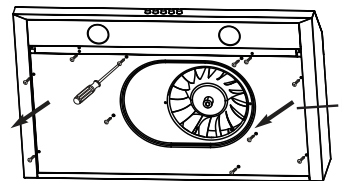

Fig. 13
- The damper and the adapter are located inside the range hood. To access these parts, remove the bottom panel (E) if you have not previously done so (see Fig. 13).
- Choose to install the damper (C) either in the top position (3) for top venting or in the back position (5) for back venting. Adapter (D) installs to position 3 and 4 for top venting only.
- Attach damper (C) or adapter (D) over chosen knockout opening. Make sure the damper pivot is oriented on top such that the damper stays closed when not in use.
- Secure the damper (C) or adapter (D) to the range hood (A) with the short tapping screws (BB).
- Seal the damper (C) or adapter (D) to the range hood (A) on all four sides with duct tape.